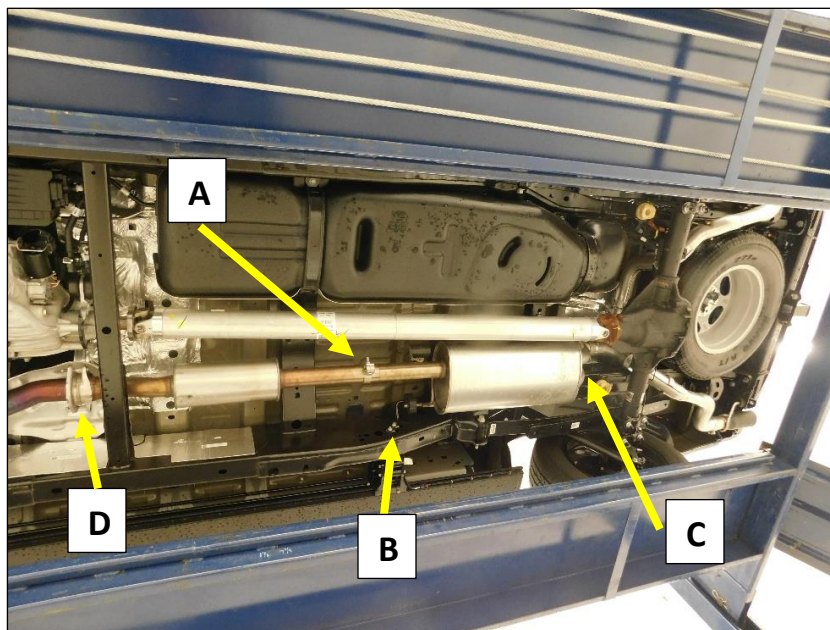

Figure 5
9. Loosen the clamp at the slip joint between the muffler and the resonator **(A)**. **Fig. 5**
11. Remove the (x2) bolts at the muffler hanger on the frame rail **(B)**. **Fig. 5**
12. Remove the bolt from the muffler hanger over the muffler and remove the hanger from the cross brace **(C)**. **Fig. 5**
14. Remove the bolts from the flange at the resonator inlet pipe and remove the resonator **(D)**. **Fig. 5**
2. Install the muffler hanger (B) **Fig. 5/7** on the frame rail in the same location it was removed.